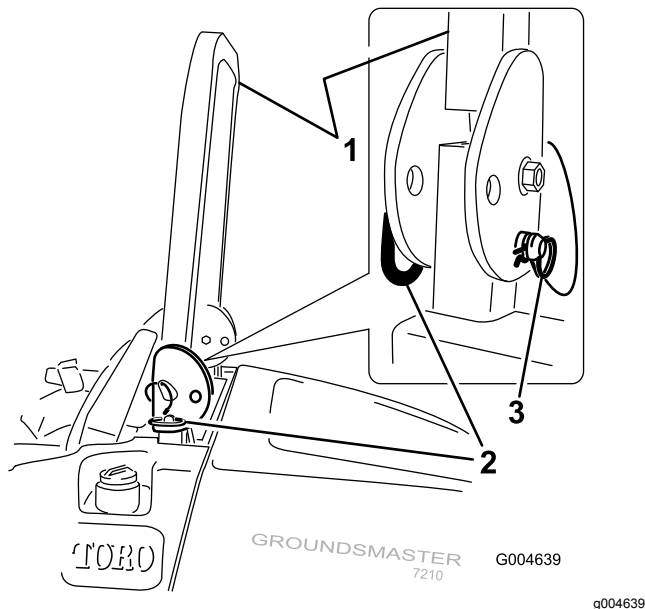

Figure 12
1. To lower the roll bar, remove the hairpin cotters, push the roll bar forward against the springs, and remove the 2 pins (Figure 12).
3. Install the 2 pins and secure them with the hairpin cotters (Figure 12).
4. To raise the roll bar, remove the hairpin cotters and remove the 2 pins (Figure 12).
5. Raise the roll bar to the upright position and install the 2 pins and secure them with the hairpin cotters (Figure 12).